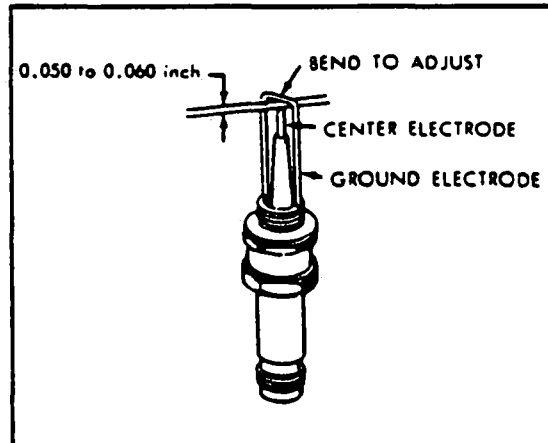

Figure 13-22. Spark Plug Gap Adjustment
c. Installation. (Refer to Figure 13-22.)